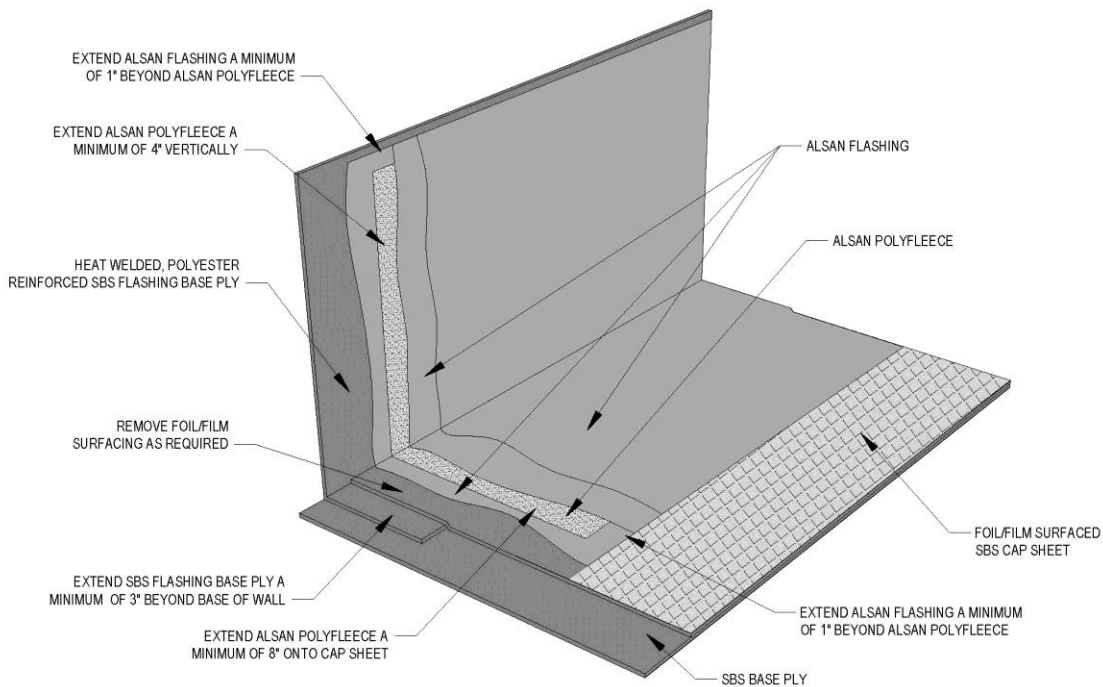

Figure 4.2b ALSAN® FLASHING Wall/Curb Flashing with SBS Flashing Base Ply on Foil/Film Surfaced Cap Sheet Without Cant
- Remove foil/film surfacing prior to installing the ALSAN® FLASHING roof system flashings on SOPRASTAR™ and SOPRALAST™ cap sheets. Refer to Figures 4.2b, 4.2d, 4.2f, 4.2h, 4.2j, 4.2l, and 4.2n. Refer to Section 5.3.2 for removal of foil/film surfacing.